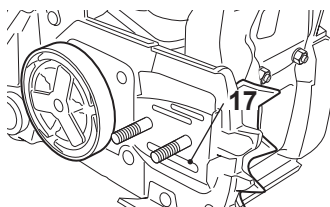

Fig. 47
- > Check the oiling port (17) for clogging and clean if necessary to ensure proper lubrication of the guide bar and saw chain during operation. Use a soft wire small enough to insert into the oil discharge hole (Fig. 47).